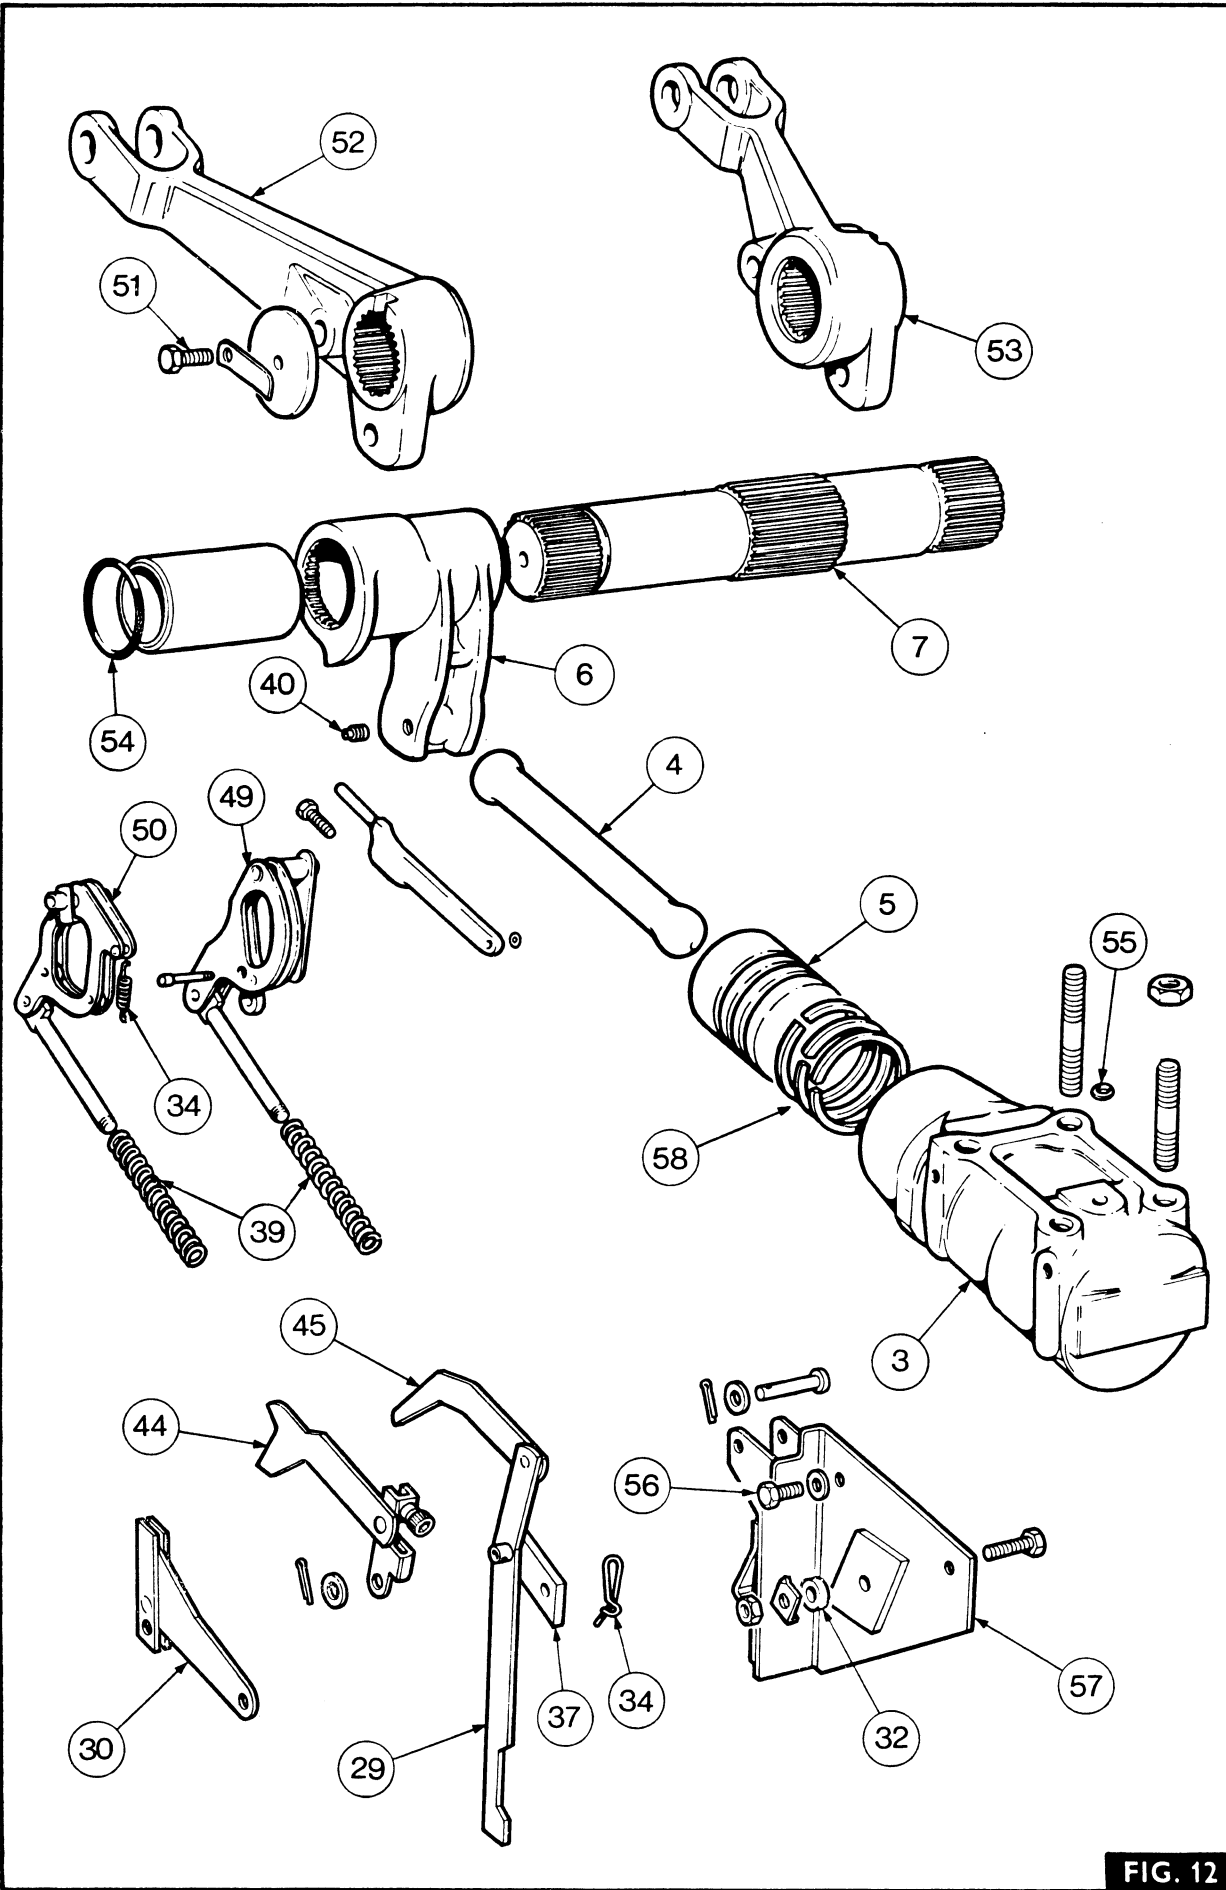

FIG. 12
14. Fig. 12. Remove the bolt (51) and tabwasher, then slide off the right hand lift arm (52).
15. Figs. 12 and 21. Drive the lift shaft (7) and the remaining lift arm (53) out of the lift cover, then remove the ram arm (6). Remove the 'O' rings (54).
1. Fig. 12. Place the ram arm (6) in the lift cover, then slide the lift shaft (7), complete with a new 'O' ring (54) into the lift cover and through the ram arm (6), aligning the master splines.
2. Refit the right hand lift arm (52), plus a new 'O' ring (54) aligning the master spline.
3. Refit the bolt (51) and the tabwasher.
16. Fig. 12. Locate the slide pivot (37) on the bolt, then refit the spacer (32), tab washer and the nut (33).
17. Refit the Pressure Control link (30) and secure it with the washer and the split pin (31).
**Figs. 12 to 22****Disassembly**
7A—03—38.**Figs. 12 to 16****Disassembly**
1. Remove the ram cylinder, as stated in items 1 to 8 of operation 7A—04—41.
2. Fig. 12. Remove the bolts (56) securing the support bracket (57) to the ram cylinder (3).
3. Withdraw the piston (5) from the ram cylinder, then if necessary, remove the piston rings (58).
7A—03—38.**Figs 12 to 20 and 22.****Removal**
7A—03—38.**Figs. 12 to 18 and 22.****Removal**